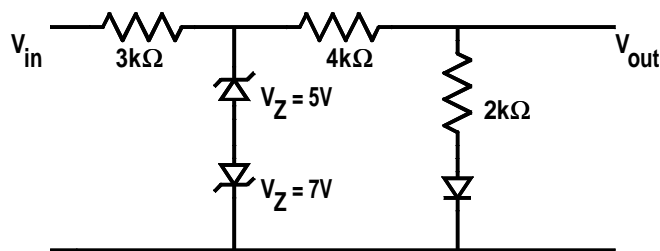

Figure 29.8: Problem 29.3.
29.3 Plot a graph of the output voltage from the circuit shown in Figure 29.8 for an input voltage which is varied from -30 V to $+30\text{ V}$.